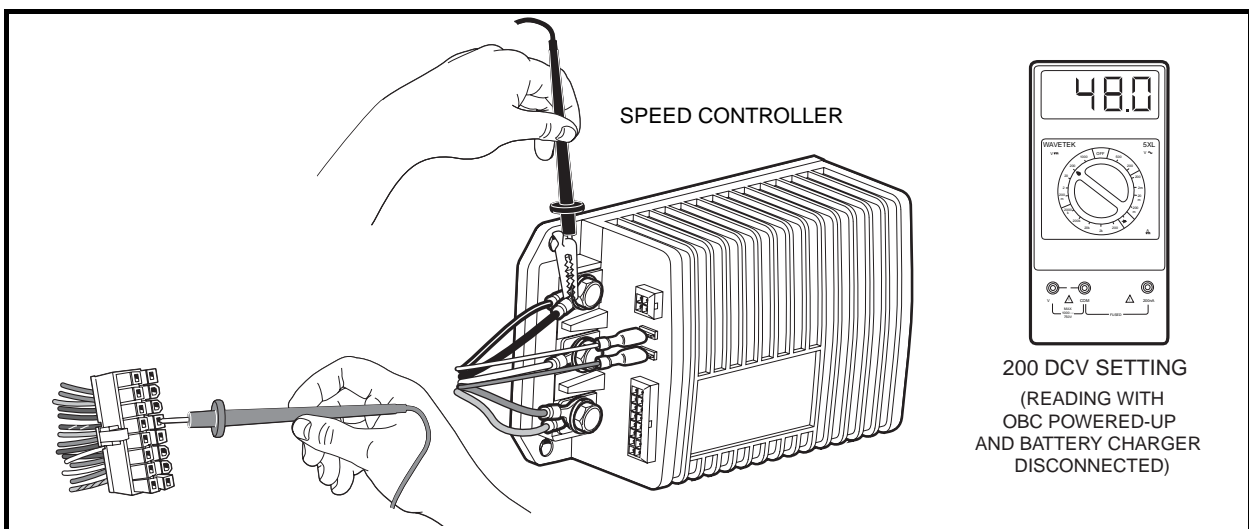

Figure 11-14 Pin 5 Test
4. Using a multimeter set for 200 volts DC, insert the red (+) probe of the multimeter into pin 5 (light blue wire) of the 16-pin connector. See following **CAUTION**. Using an alligator clip, connect the black (-) probe to the B- terminal of the speed controller (**Figure 11-14, Page 11-27**).